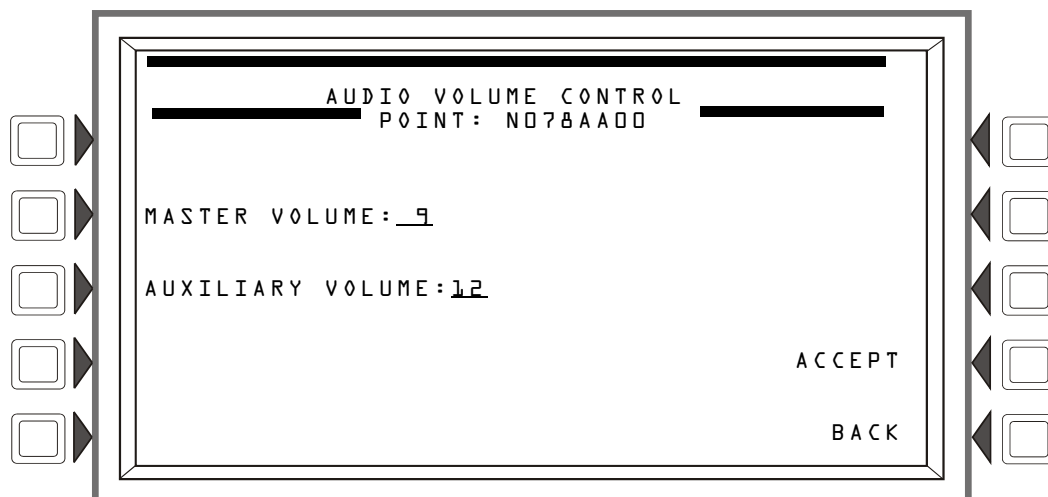

Figure 3.56 Audio Point Programming Menu Screen
**MASTER VOLUME:** This field can set the volume for all audio outputs at the DVC node. When the audio amplifier point is set to 00, as it is in Figure 3.56, the setting affects all audio outputs on the DVC node (this includes all outputs on its DAAs). When a specific DAA point is entered at the point program menu (for example, N078AA01) the MASTER VOLUME setting will apply to the audio outputs at that DAA (the DAA with its address set to 01). Set this field to any volume setting from 0 (off) to 15 (high). Default: 15